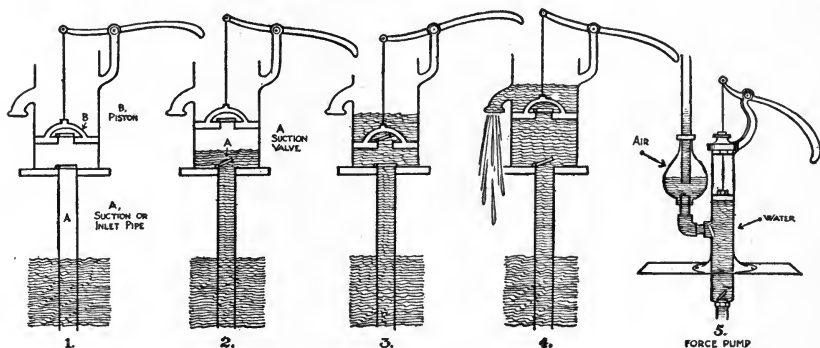

FIG. 31.
As the handle in Fig. 31, (4) moves down, why is valve *B* closed and valve *A* open?
When the handle moves up in Fig. 31, (3) why does valve *B* open and *A* close?